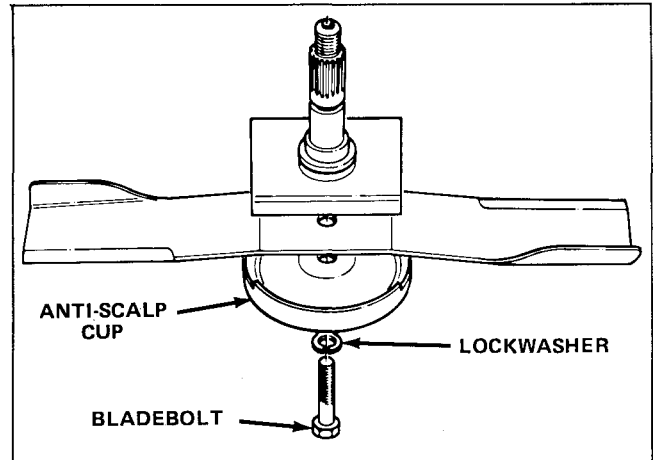

Figure 24
2. Grasp end of blade using a rag or thickly padded glove. Remove bladebolt, lockwasher, anti-scalp cup and blade from spindle shaft (Fig. 24).